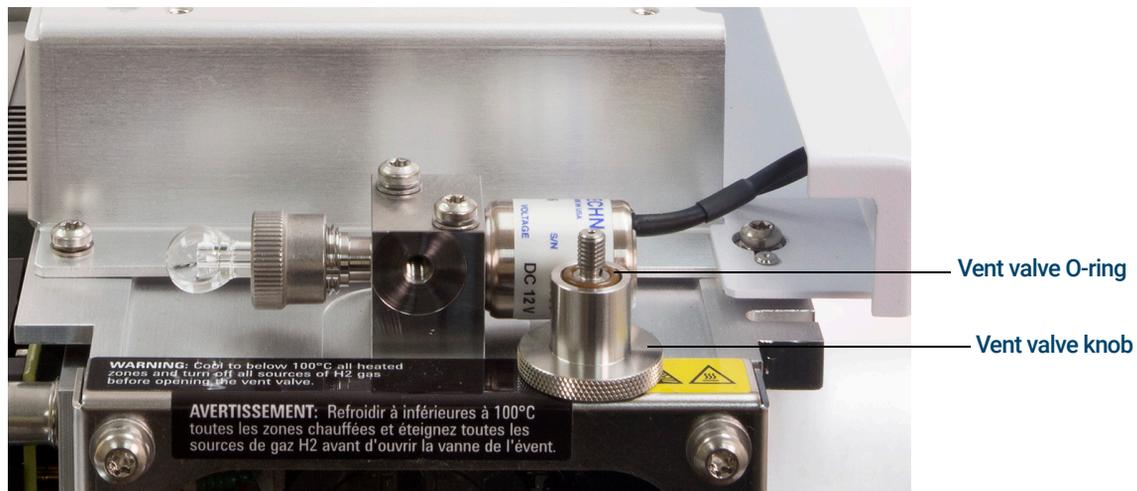

Figure 15. Vent valve O-ring
- 2 Completely remove the vent valve knob. (See **Figure 15** on page 109.)